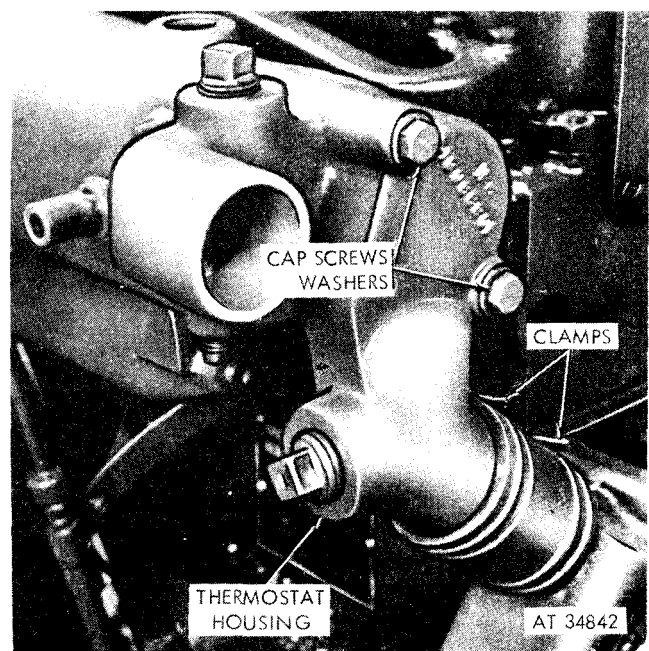

Figure 2-136. Thermostat housing—multifuel models.
- (1) Drain the cooling system. Refer to TM 9-2320-211-10.
- (2) Loosen the rear clamp on the radiator inlet hose.
- (3) Remove the two capscrews and plain washers securing the thermostat housing assembly to the intake manifold (fig. 2-136).
- (2) Position the new intake manifold-to-thermostat housing gasket, and secure the thermostat and its housing to the intake manifold with two washers and capscrews (fig. 2-136).